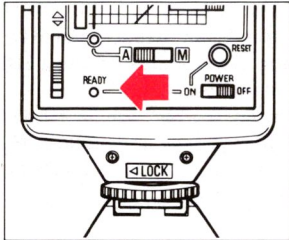

Fig. 43
5. Set the flash A/M selector to "A". (Fig. 43)